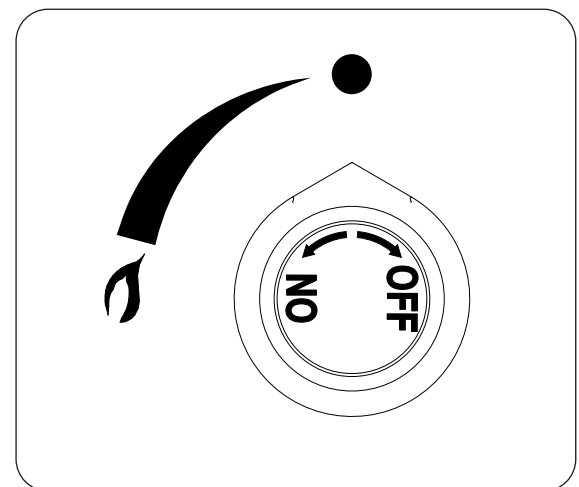

Fig. 39-2
4. **Once the flame is in position**, turn the gas control knob counter-clockwise to the **ON** position, depress, and hold for 15 seconds (see Fig. 39-2). Your burner should light within 5 seconds.
To extinguish your gas burner, turn the gas control knob clockwise to the **OFF** position (see Fig. 39-2). Be sure the control knob is turned fully off to avoid any gas leakage.